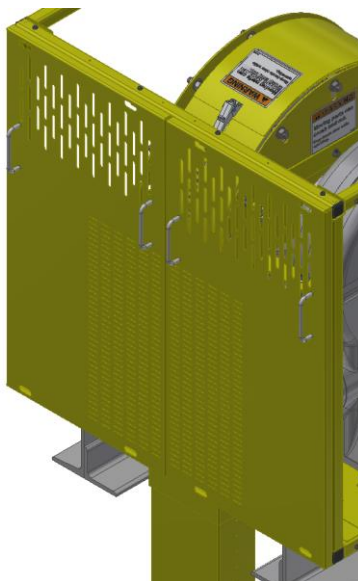

Figure 26: Machine Guard Rope Panel Installation
- Attach the Machine Guard Rope Panels (p/n's _ _-237 & _ _-238) and tighten the #10-24 screws as shown below (Figure 26). The slotted hole patterns on each Machine Guard Rope Panel (p/n's _ _-237 & _ _-238) should mate up next to each other.